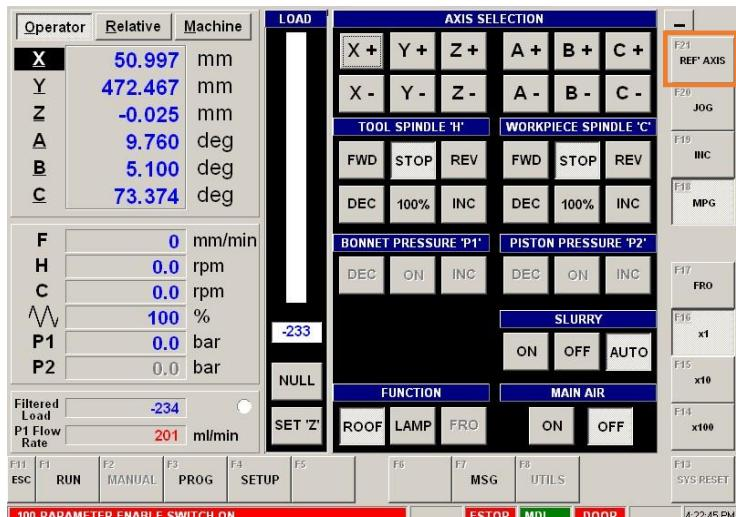

Figure 13 - Manually position A & B axes
2. Select the “REF1 AXES” button as shown in (Figure 13 - Manually position A & B axes).